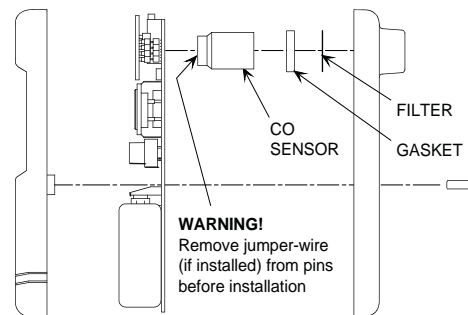

Figure 4. Sensor Installation
1. See Figure 4. Remove the screw from the rear of the instrument; then lift off the front case and remove the printed circuit board assembly.